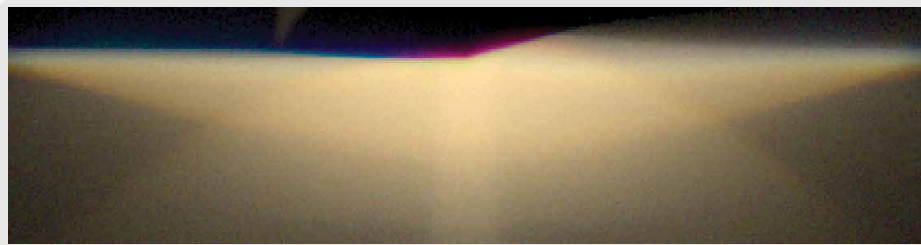

Figure 1. Results from a color simulation of a low beam lens headlamp (full view of a candela distribution).
Figure 1 shows a typical example where a low beam projector type headlamp produces a narrow seam of blue and red colored light above its cutoff line. You can see this effect in the color simulation of such a headlamp.
- ▶ Because sensors are hit by λ -dependent rays, they must themselves depend on the wavelength λ . Otherwise, it would be impossible to differentiate the sensors for λ (and especially, to produce RGB color results like the low beam sensor images in Figures 1 and 2). Effectively, this necessity makes the sensor a 3-dimensional object. In practice, the sensor's continuous dependence on λ is discretized by a number of conventional 2-dimensional sensors, each of them accounting for a limited λ spectral channel.